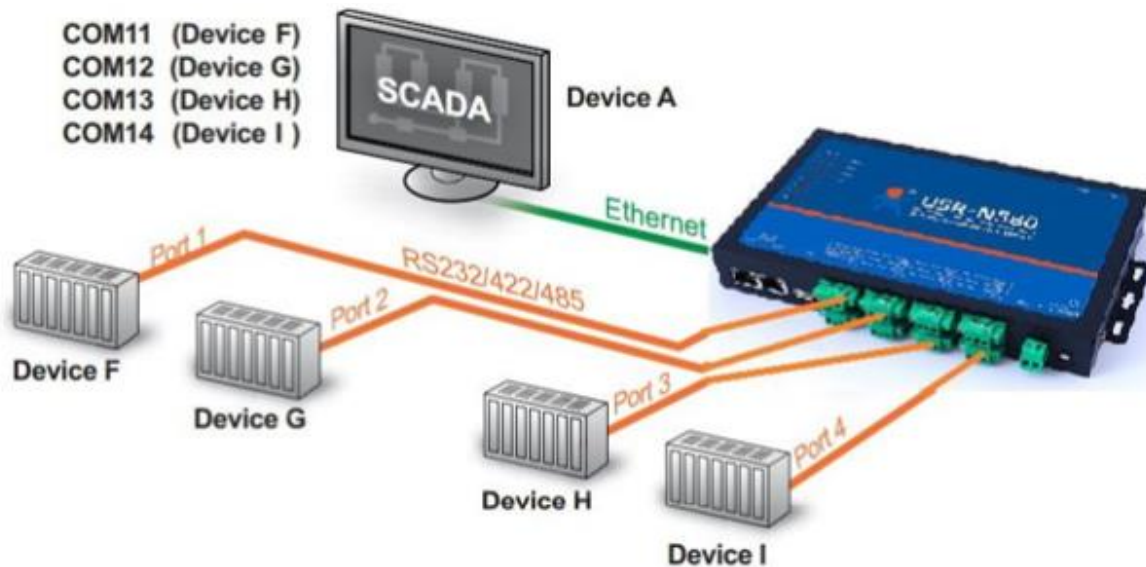

Fig.68 Diagram of virtual COM Application over TCP/IP Network
Virtual COM on host computer allows remote access of serial devices over TCP/IP networks through Serial/IP Virtual COM ports that work like local native COM ports. Fig.68 is an example of Virtual COM application diagram. There are traditionally only two Physical COM ports (COM 1 and COM 2) on the personal computer (PC) while there can be several Virtual COM ports such as COM 11, 12, 13, and so on. This section will provide the procedure to enable Virtual COM (VCOM) on Windows based PC. Please follow the steps described here to configure your Virtual COM application.